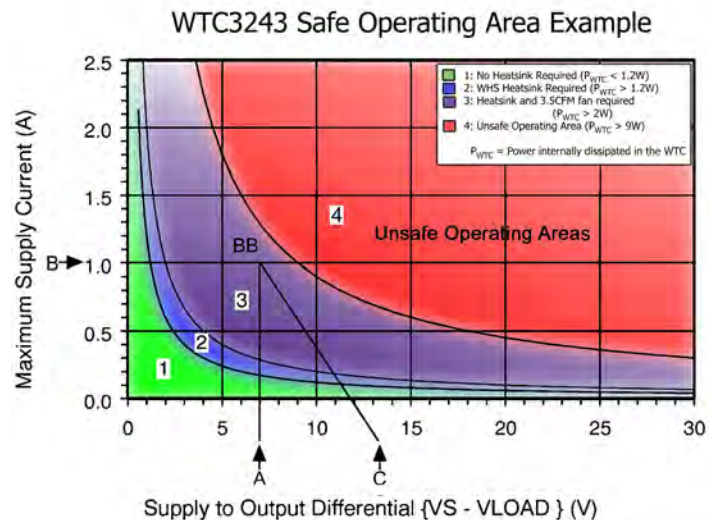

Figure 35. Example SOA Calculation
An example SOA calculation is shown in Figure 35 where:
Refer to Figure 35 above and note that the Load Line is in the Unsafe Operating Areas for use with no heatsink (1) or the heatsink alone (2), but is outside of the Unsafe Operating Area for use with heatsink and fan (3).